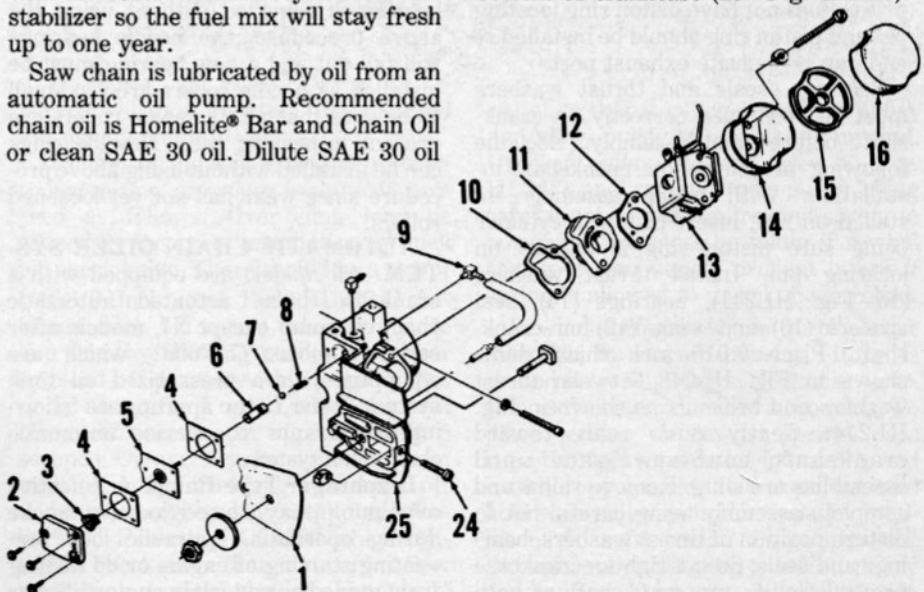
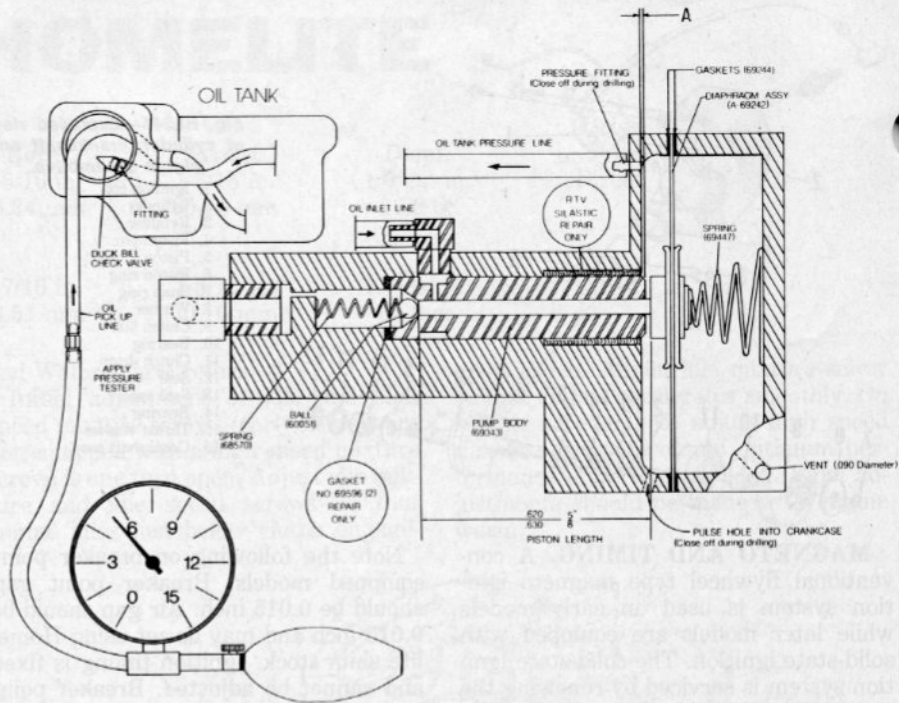

Fig. HL245—Exploded view of Model XL-2 crankcase and oil pump assemblies. Other models are similar.
Fig. HL247—Diagram showing pressure tester hook-up and diaphragm oil pump components.
CYLINDER, PISTON, PIN AND RINGS. Cylinder may be removed after unscrewing socket head capscrews in bottom of crankcase (25—Fig. HL245).
Diaphragm Type Pump. A defective oiler pump may cause excessive smoke during operation, hydraulic lock preventing starting of engine or oil leaking from guide bar pad while engine idles or is shut off. If any of these conditions exist and excessive smoke is not due to improperly mixed fuel, proceed as follows: Attach a suitable carburetor tester to oil pickup line as shown in Fig. HL247
and pressurize to 5-8 psi. If system does not hold pressure, then oil is leaking past pump body (6—Fig. HL245) and crankcase (25); renew pump body.
diaphragm chamber floor as shown at (A - Fig. HL247). Insert spring (8 - Fig. HL245) and check ball (7) into crankcase. Check ball may also be placed in ball seat end of pump body using a small amount of grease to hold ball in position. Using a suitable arbor press, insert pump body halfway into crankcase. Apply a bead of RTV silastic sealer around upper third of body, then continue pressing body into crankcase until it seats in bore. Wipe off excess sealer. Insert diaphragm and plunger and work it against check ball several times making sure it operates freely. Allow RTV sealer to dry. Pressure test pump as previously outlined to check repair. If system still does not hold pressure then pump bore in crankcase is damaged or defective and renewal of crankcase assembly is required. If system holds pressure, reassemble remaining components and fill oil tank.
outlet so that it engages notch in pulley and allow pulley to completely unwind. Unscrew pulley retaining screw (7 - Fig. HL247) and remove rope pulley being careful not to dislodge rewind spring in housing. Care must be taken if rewind spring is removed to prevent injury if spring is allowed to uncoil uncontrolled.